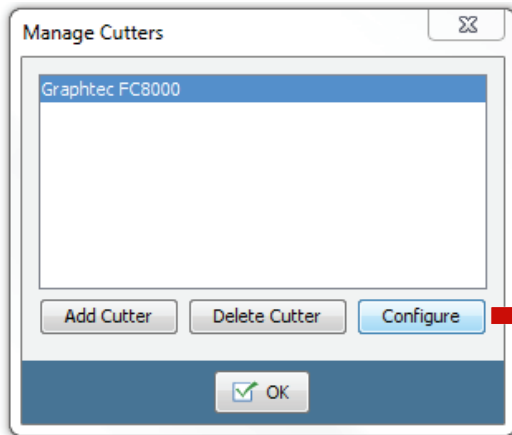
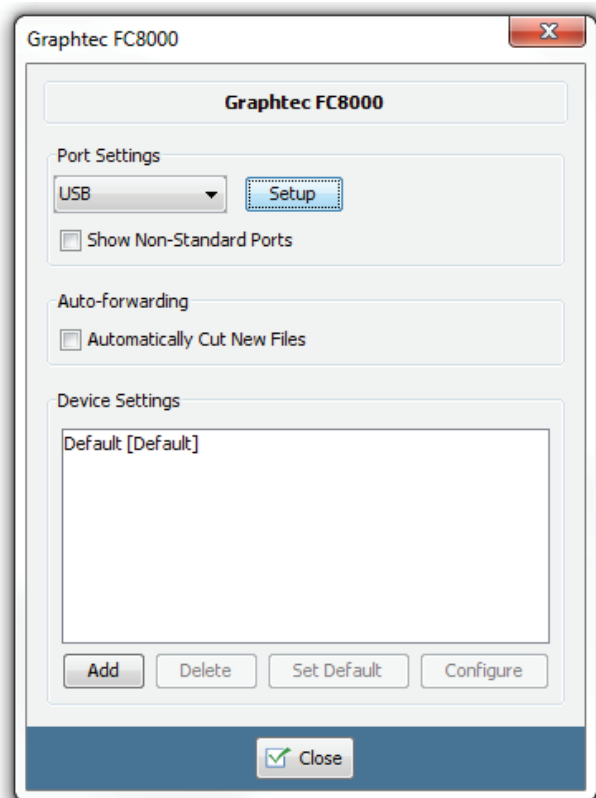

Figure 8
Figure 9
2. After selecting your cutter, click *Configure* and under *Port Settings*, select the correct connectivity (Figure 8). If you click *Setup* (Figure 9), you will be able to set specific connectivity settings, for example: